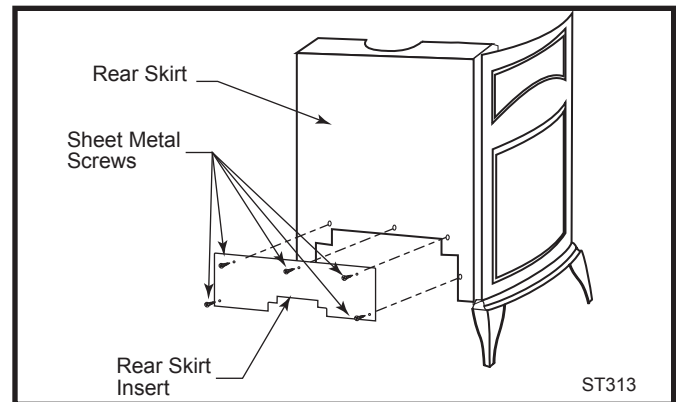
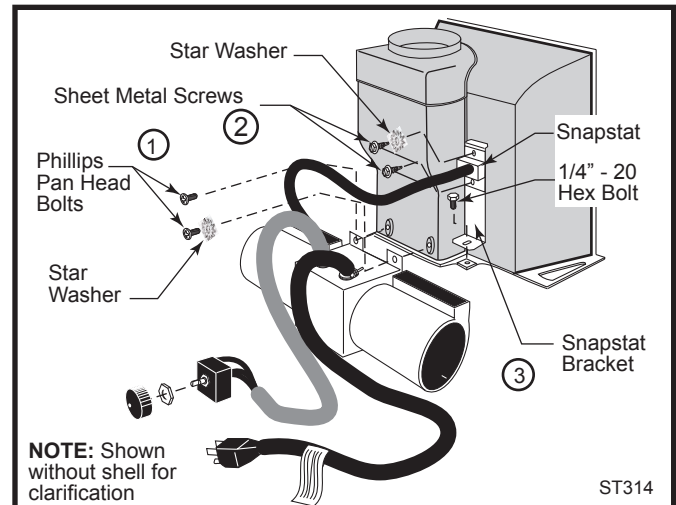
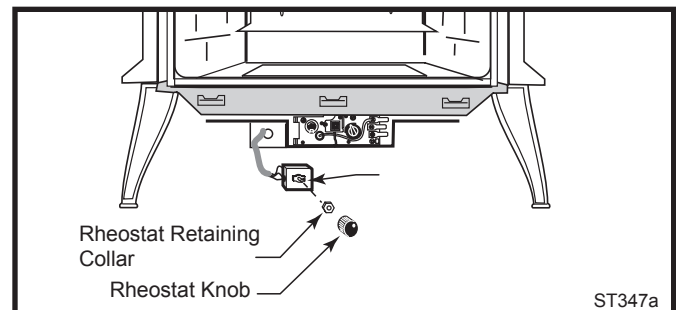

Fig. 13 Remove rear skirt insert.
Fig. 14 Attach the fan assembly and the snapstat.
Fig. 15 Attach the fan rheostat.
2. Remove the rear skirt insert panel at the bottom of the Rear Skirt (Fig. 13) and fasten the blower assembly to the firebox back with the two Phillips pan-head bolts originally installed in the firebox back. ('1', Fig. 14)
3. Attach the snapstat assembly to the snapstat bracket with two sheet-metal screws. ('2', Fig. 15) Attach the snapstat bracket to the stove with a hex-head bolt passing through the bracket and into the stove base. ('3', Fig. 14)
4. The rheostat control switch attaches to the left side of the valve bracket at the front of the stove. (Fig. 15)